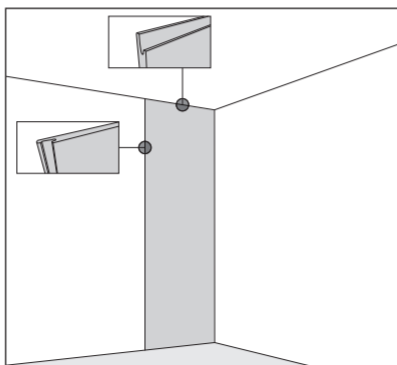

Fig.19
- Butt the mineral core wall panel firmly to the wall, align its bottom edge flush with internal corner trim edge; check horizontal alignment with a level gauge and vertical alignment against both the wall and panel 4 with a laser level gauge, then tap gently with a rubber hammer to secure tightly, leaving no gaps between panel 4 and internal corner trim. (Fig.19)